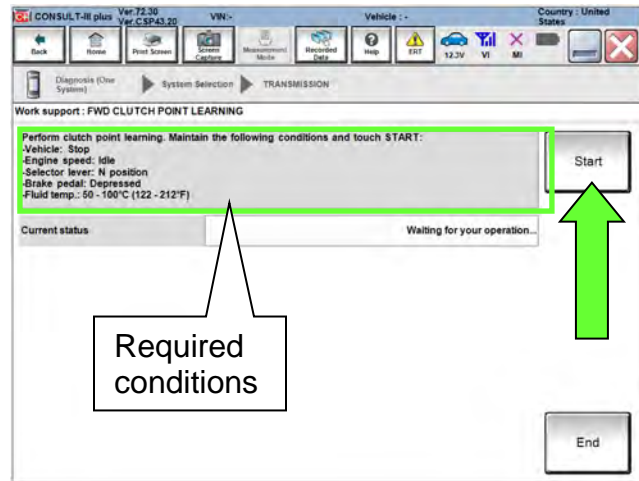

Figure 8L
15. With the engine still running and at idle, depress the brake pedal and shift the CVT into neutral (N).
- Confirm that all of the conditions indicated in Figure 8L are being met.
17. While maintaining all conditions shown in Figure 8L and the Current status indicates EXECUTING, shift the CVT into R and then wait until the Current status indicates COMPLETED.